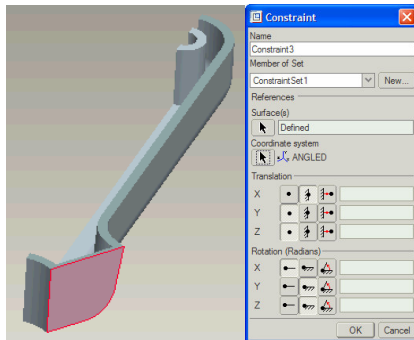

Figure 16 : Second Symmetry Constraints
There is another problem with the analysis! There is another symmetry on the surface in Figure 16.
We will now add another constraint using this coordinate system. Choose INSERT > DISPLACEMENT CONSTRAINT . The constraint dialog will appear. Click on below Surface(s) then pick the surface highlighted in red in Figure 16 then OK to return to the constraint dialog. To use another coordinate system click on below Coordinate System then pick the ANGLED coordinate system. This constraint needs to stop movement across the symmetry plane (X) whilst allowing free movement in the plane (Y&Z). Set the constraints as shown in Figure 16b for both Translation and Rotation. (Hint – For symmetry rotation and translation constraints are opposite).